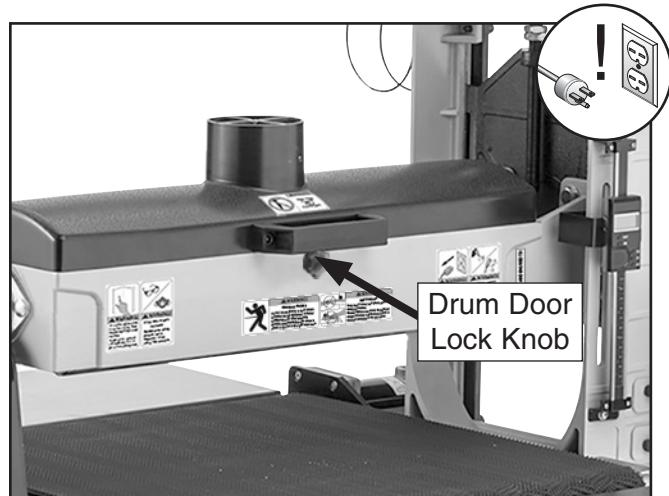

Figure 37. Location of drum door lock knob.
2. Remove drum door lock knob shown in **Figure 37** to open drum door.